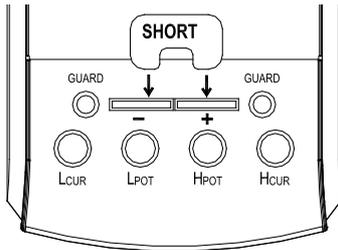

Figure 6
- When using square terminals, insert the short socket to the square terminals and make  $L_{CUR}/L_{POT}/H_{POT}/H_{CUR}$  terminals hang in the air (shown in figure 6);